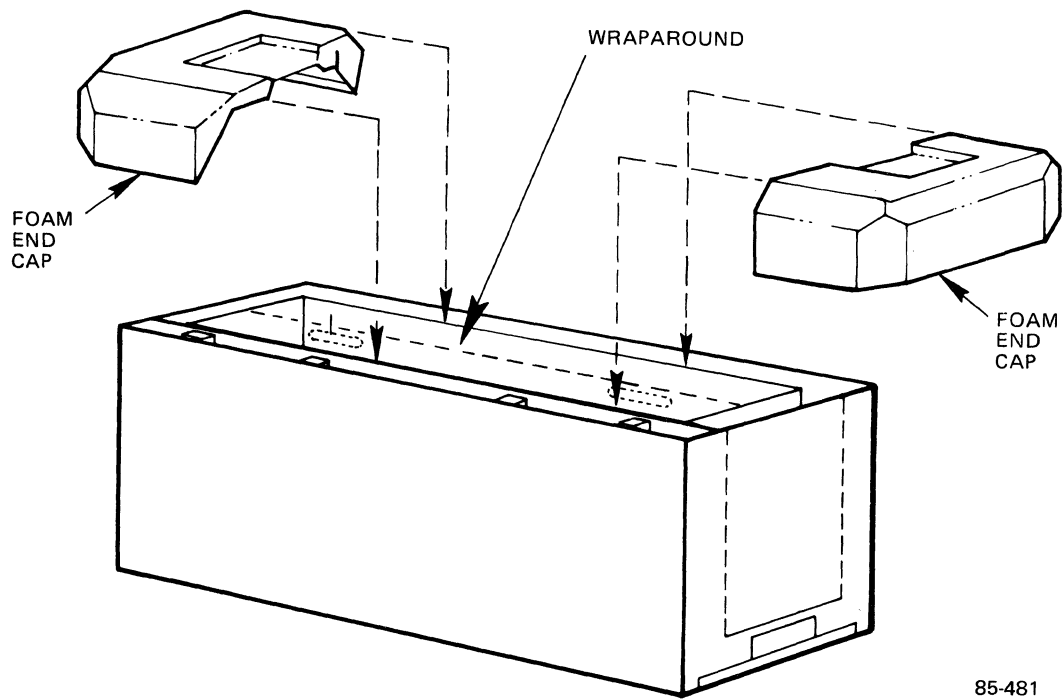

Figure 2-3. Removing the Foam End Caps
- Remove the two foam end caps by pulling them straight up (see Figure 2-3).